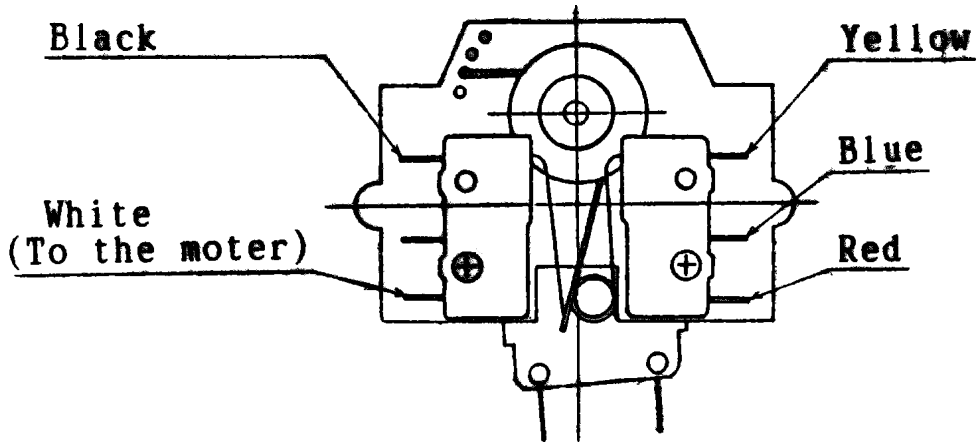

Fig. 7
- (1) Make sure that the power supply is turned off.
- (2) Remove the housing cover (by turning it counterclockwise).
- (3) Remove lead wires by melting the soldered area with a soldering iron.
- (4) Remove the microswitch (loosen one screw).
- (5) Install the replacement switch and tighten the screw.
- (6) Re-solder lead wires. Refer to Fig. 7.
- (7) Check wiring and operation.
- (8) Replace and tighten the housing cover.